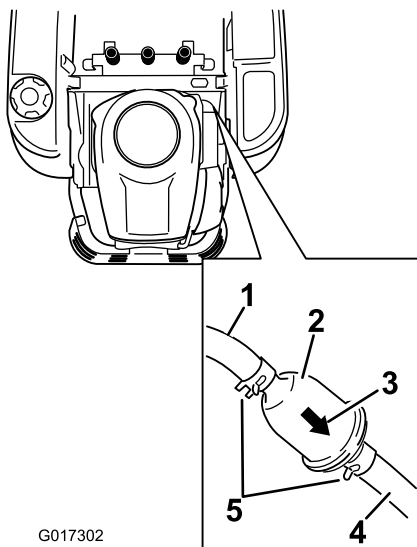

Figure 39
3. Locate the fuel filter on the side of the engine (Figure 39).
4. Squeeze the ends of the hose clamps together and slide them away from the filter (Figure 39).
7. Move the hose clamps close to the filter (Figure 39) to secure it in place.